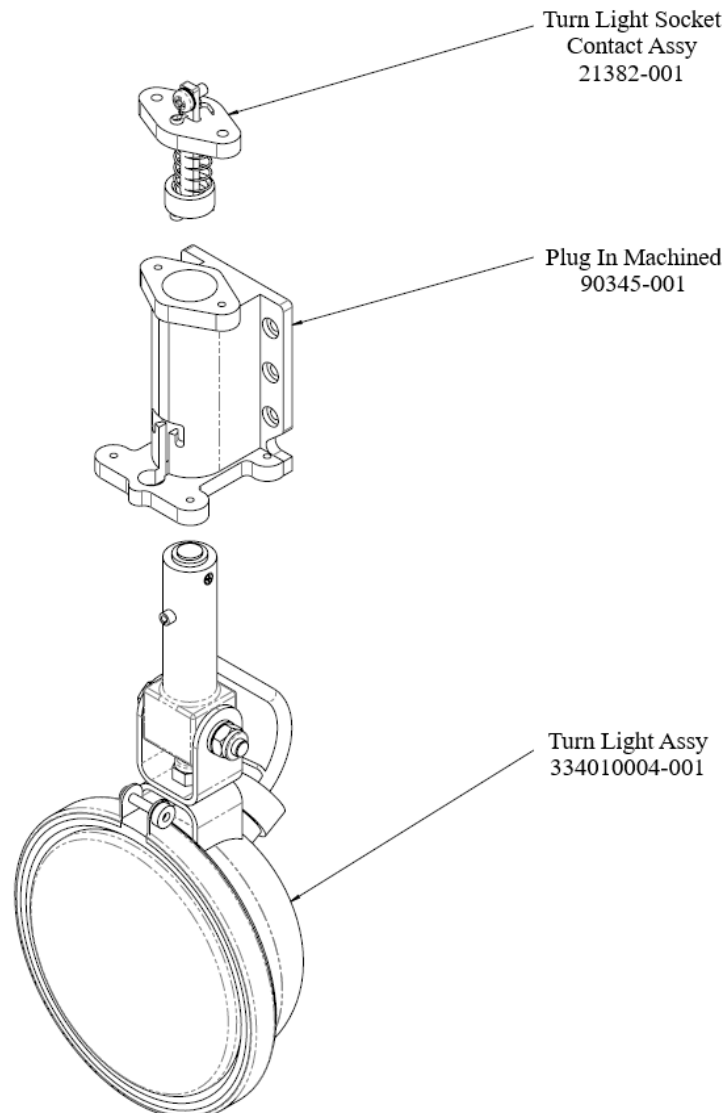

Figure 1: New Turn Light Assembly
3. If aircraft is a T660, install Turn Light Assembly 334010004-001 on Rear Spar Assembly 95622. Remove skins as necessary to gain access to Rear Spar Assembly 95622. Refer to Figures 1 and 2.
7. If aircraft is a H80, G10, T34 or T65HG, install Turn Light Assembly 334010004-001 on Main Spar Extension 20501 on right wing. Remove skins as necessary to gain access to Main Spar Extension 20501. Refer to Figures 1 and 4.